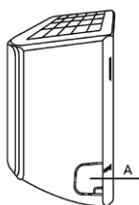

fig. 14 -
1. Remove the pre-cut plate (A-"fig. 14 -") near the desired direction.